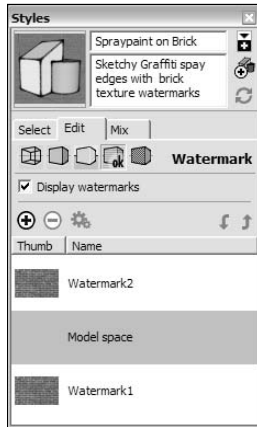

Figure 9-8:
- ✔ **Level of Detail:** When you slide the Level of Detail controller (which only appears when you've applied an NPR style) back and forth, you're effectively telling SketchUp how *busy* you want your model to look. The farther to the right you slide it, the more of your edges SketchUp displays. You should experiment with this setting to see what looks best for your model. Figure 9-8 shows what happens when I slide the Level of Detail controller from left to right.
Figure 9-8 shows the Watermark section of the Styles dialog box. Here’s a brief introduction to what some of the less-obvious controls do: